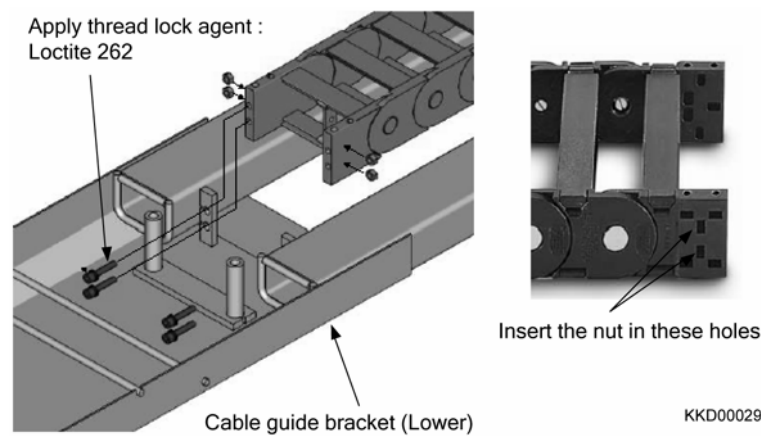

Fig. 2-61
6) Install the cable guide to the cable guide bracket (Lower). (Fig. 2-61)